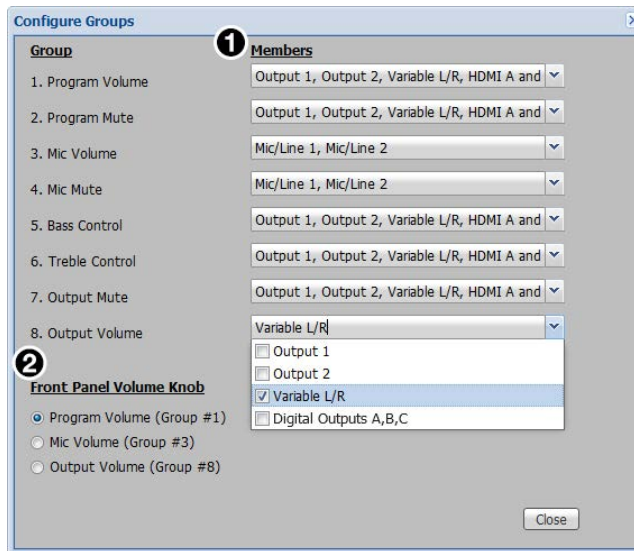

Figure 78. Configure Groups Dialog Box
2. In the Group Controls panel of the Mix Controls screen, click the **Configure Groups** button (⑫). The Configure Groups dialog box opens.
3. For the desired group master, click the corresponding drop-down menu (see figure 78, ①) to display a list of available group members.
2. In the Group Controls panel, click the **Configure Groups** button (⑫). The Configure Groups dialog box opens.
3. From the Front Panel Volume Knob list (see figure 78, ②), select the desired volume control the front panel volume knob adjusts. The available options are: